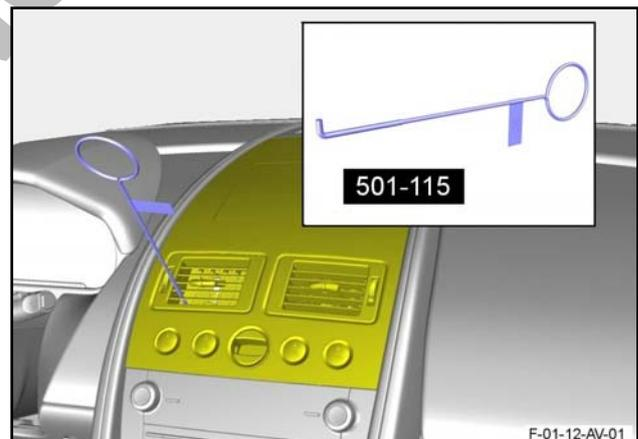

Figure 2
3. Use the special tool to release the veneer bezel from the Instrument Panel (IP) (Refer to Figure 2).